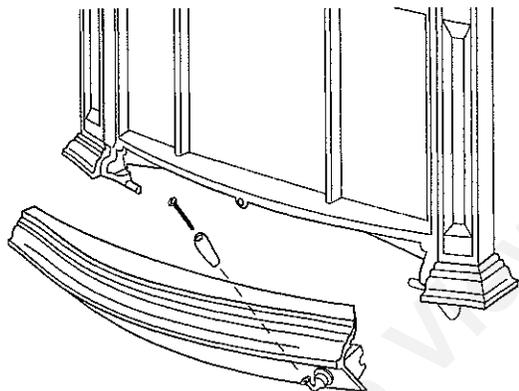

**Fig. 24.** Replace the glass and frame assembly.
- Replace the glass and frame assembly by resting the bottom edge of the frame on support brackets below the front opening of the firebox. Swing the top edge of the assembly toward the firebox, and center it. Fasten it by closing the latches over the top left and right edges of the frame. Fig. 24